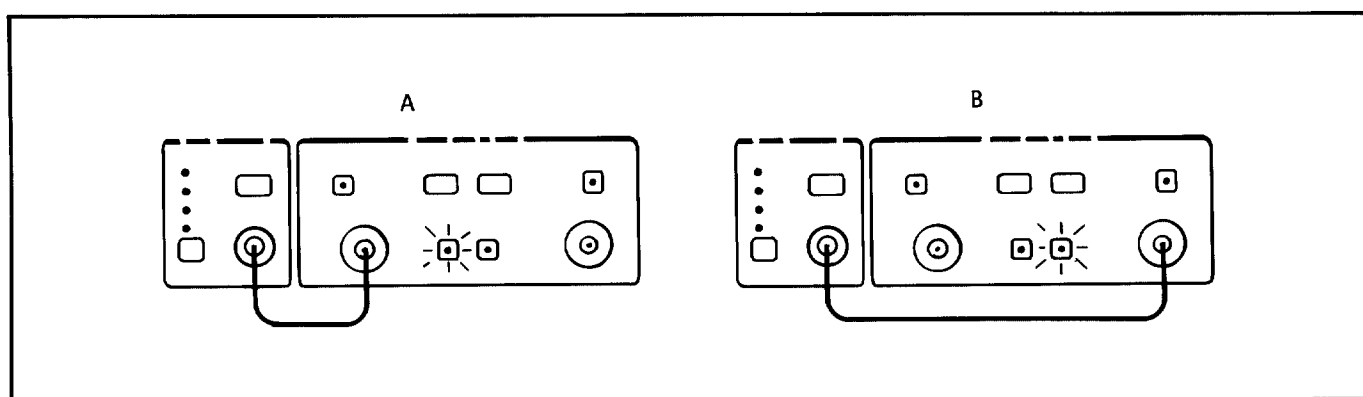

FIGURE 2-8. COMB GENERATOR CONNECTION
2. Connect the comb generator output to the preselector input that accommodates the chosen spectrum analyzer frequencies, and press the key next to the chosen input to enable it, as in Figure 2-8.